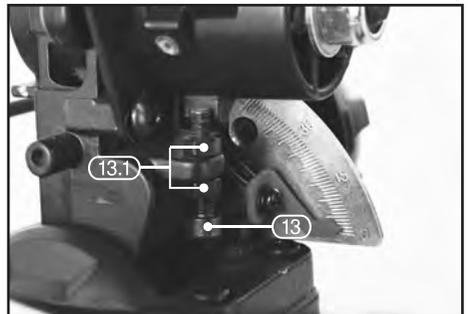

FIG.6
8.6 DEPTH OF CUT STOP – FIG.6
- In its normal position, the depth of cut stop (13) permits the saw blade to cut right through a workpiece.